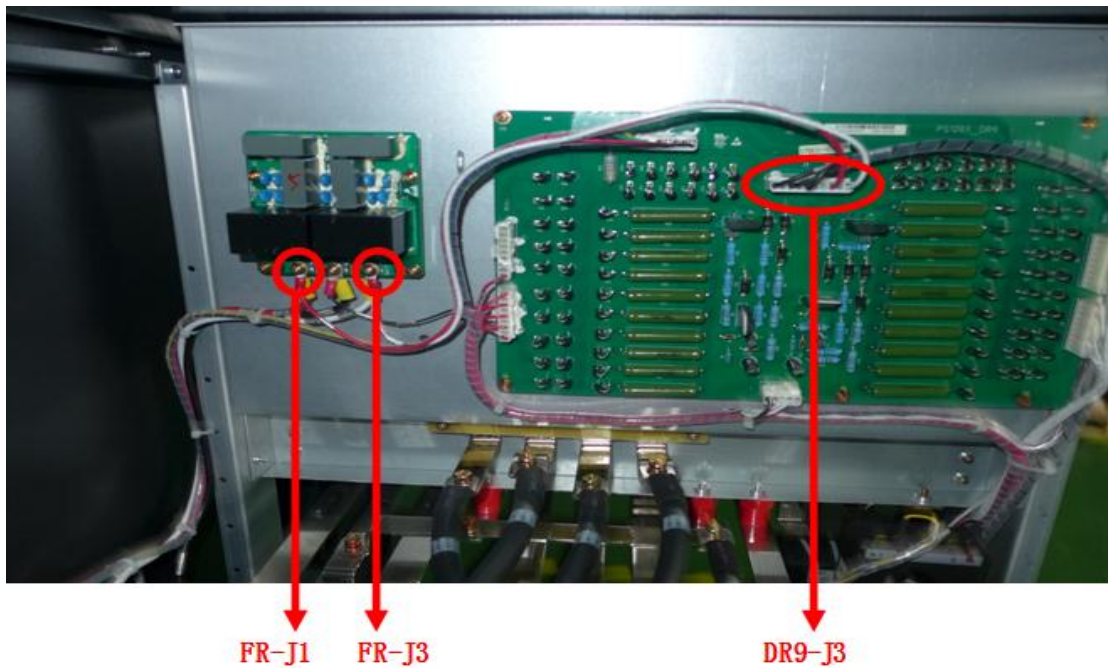

Figure 7 FR-J1 and FR-J3 cables
5. Install the bypass voltage detection cables on the battery cold start board, connect DR9-J3 terminal (Battery cold start board) to FR-J1 (Red cable) and FR-J3 (White cable), as is shown in figure 7.